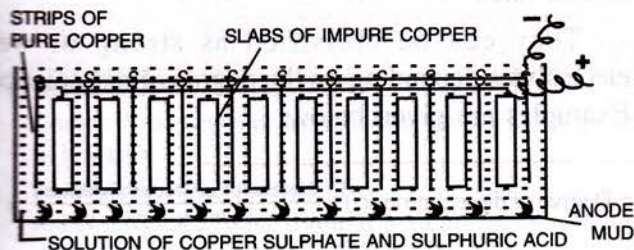

Fig. 6.10 Refining of copper
**Electrolyte :** A solution of copper sulphate and dilute sulphuric acid. (Fig. 6.10).